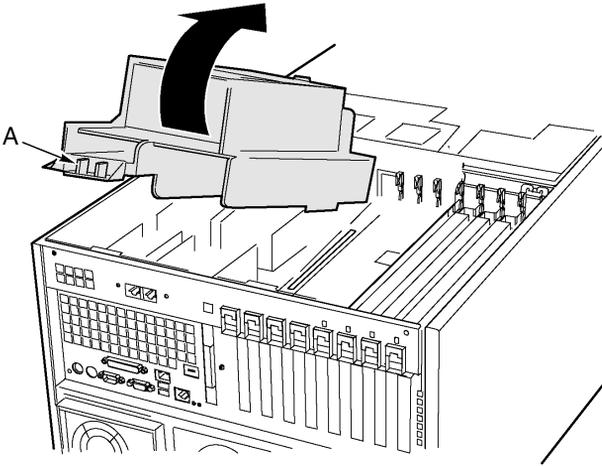

Figure 20 - Removing the processor board air baffle
- 1 At the end of the air baffle closest to the rear of the chassis, press the two tabs toward each other (Figure 20, A) and raise the end, rotating the baffle about 30°.